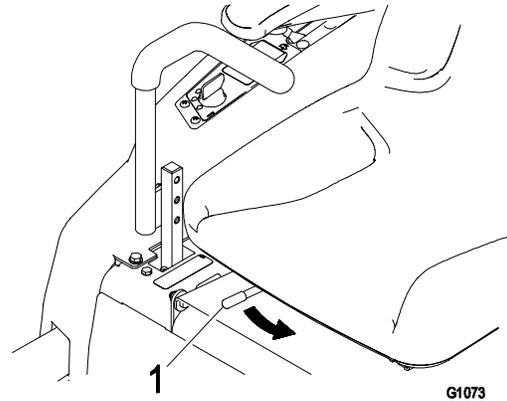

Figure 16
1. Push the adjustment lever towards the center of the machine to release the seat adjuster track (Figure 16).